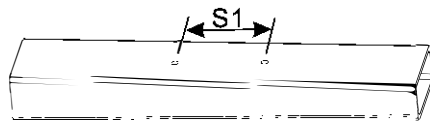

Figure 7
2. Drill two holes of distance S1 on the mounting bar (Figure 7);